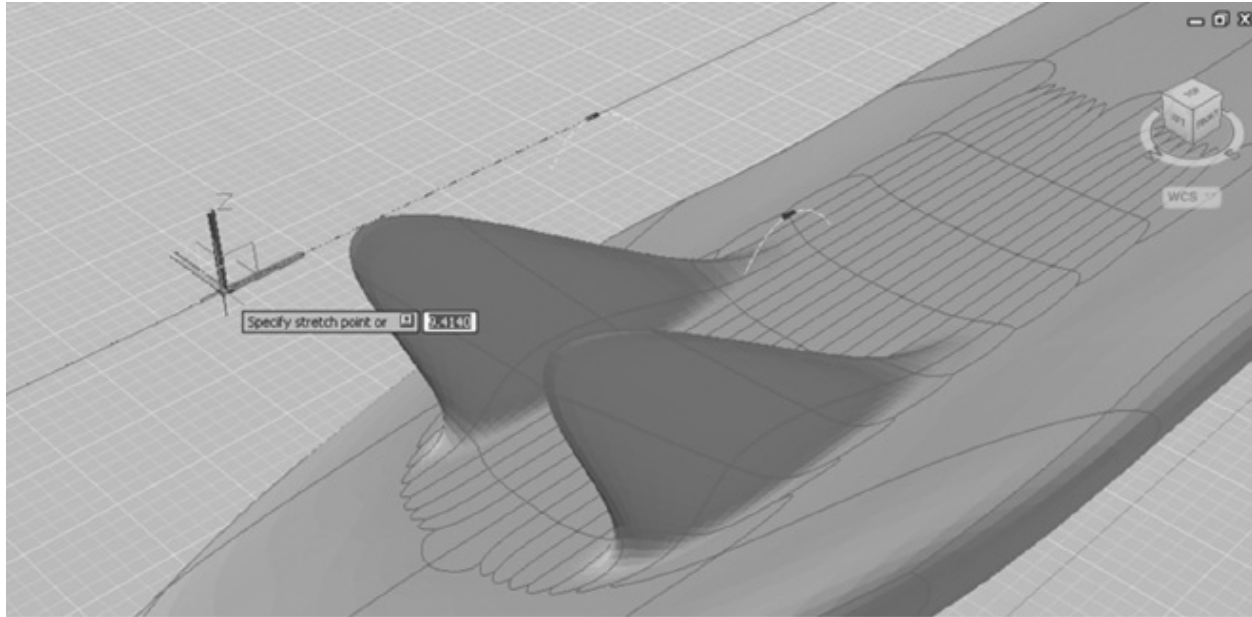

FIGURE 23.20 Adjust the fins toward the back of the surfboard.
6. Adjust the x-axis of the gizmo toward the back of the surfboard so that the fins look similar to Figure 23.20.